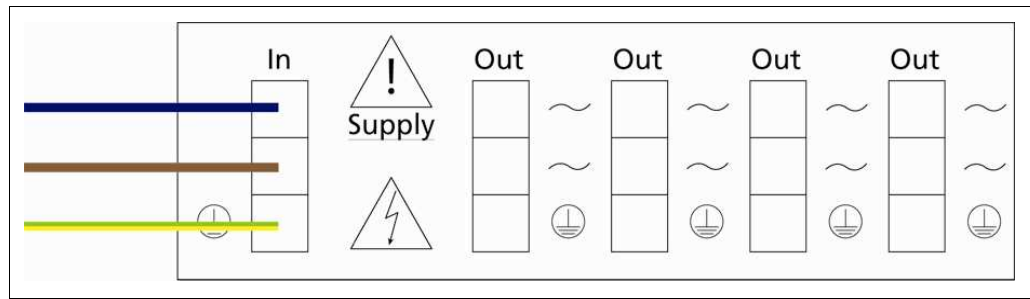

Fig. 5 External power supply for the AWE
2. Connect the external power supply to the EVU (Fig. 5).